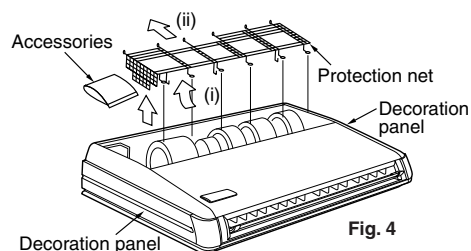

Fig. 4
- Raise one side of the protection net upwards (in the direction of the arrow (i)) and remove back (the arrow (ii)). (Refer to Fig. 4, 5)